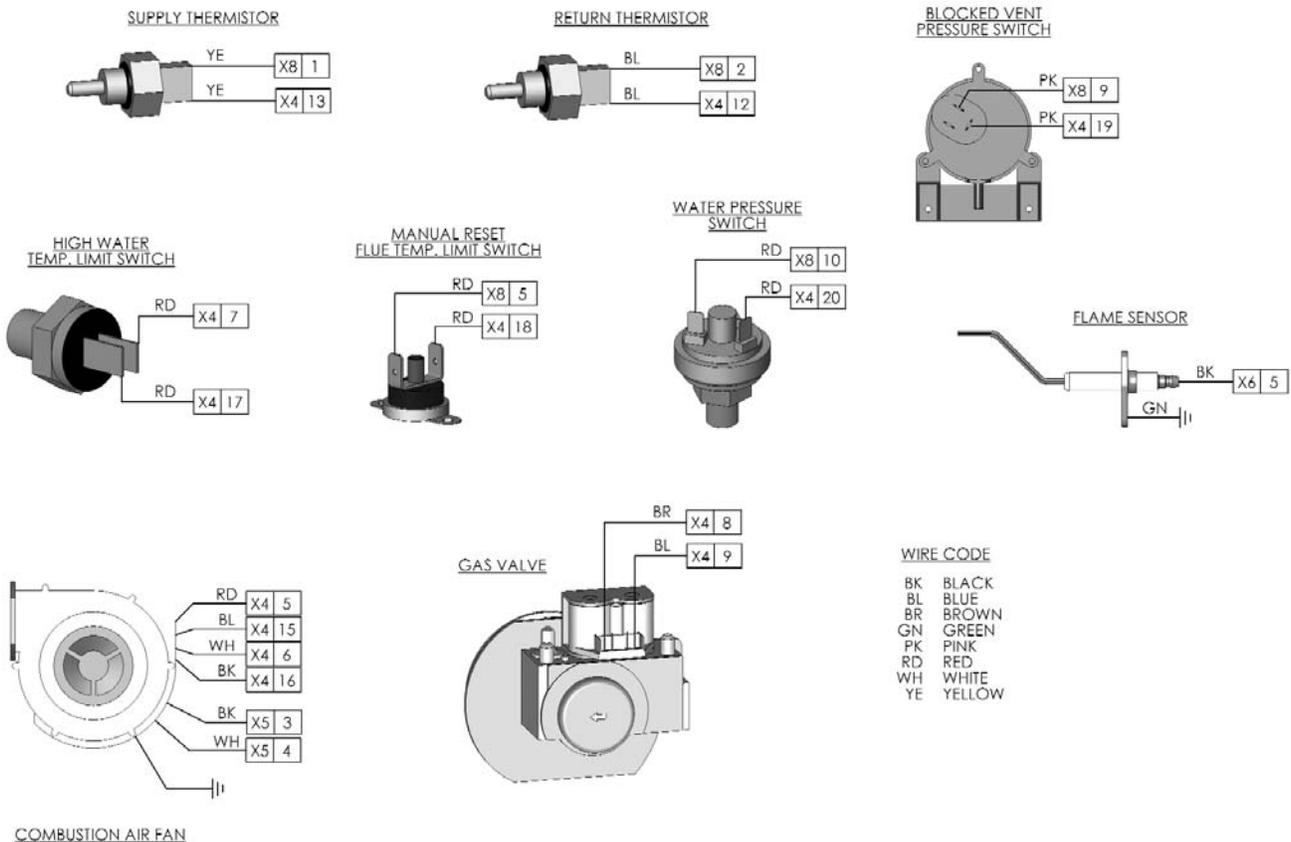

Figure 6.4: Component Wiring
10. Factory wiring of all controls and safety devices are shown in Figure 6.4.